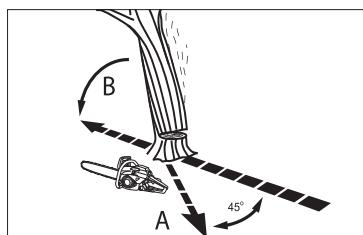

Fig. 14
**Mark out your escape path (A) in advance and clear it of possible obstacles before you start cutting. The escape path must be in the direction opposite to the direction in which the tree is expected to fall (B) (fig. 14).**